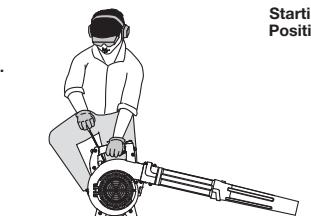

Fig. 10
WARNING: Avoid accidental starting. Make sure to be in the starting position when pulling the starter rope (Fig. 10). To avoid serious injury, the operator and unit must be in a stable position while starting.
- Do not squeeze the trigger.** Crouch in the starting position (Fig. 10). Pull the starter rope 5 times in a controlled motion.